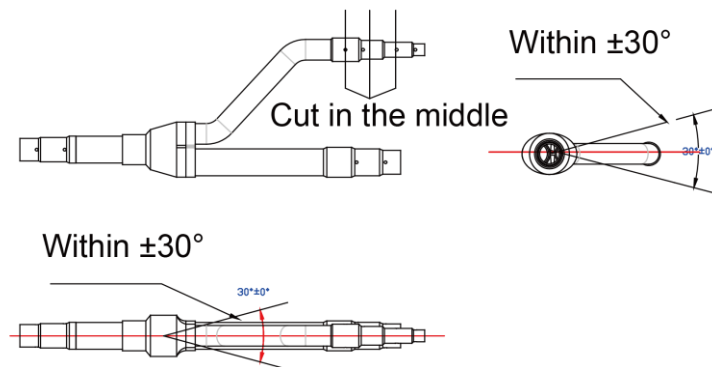

Fig. 20
- (2) Y-type branch has several pipe sections with different dimension, which facilitates to match with various copper pipes. Use pipe cutter to cut in the middle of the pipe section that is of proper dimension and remove burrs as well. See Fig.20.
- (3) Y-type branch must be installed vertically or horizontally.